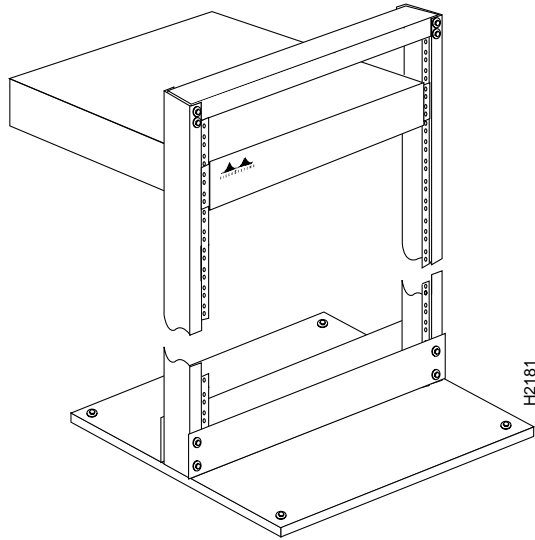

Figure 3-5 Rack-Mounted Concentrator—Open Rack Shown
- Step 5** Attach the concentrator to the rack using screws you provide. (See Figure 3-5.)